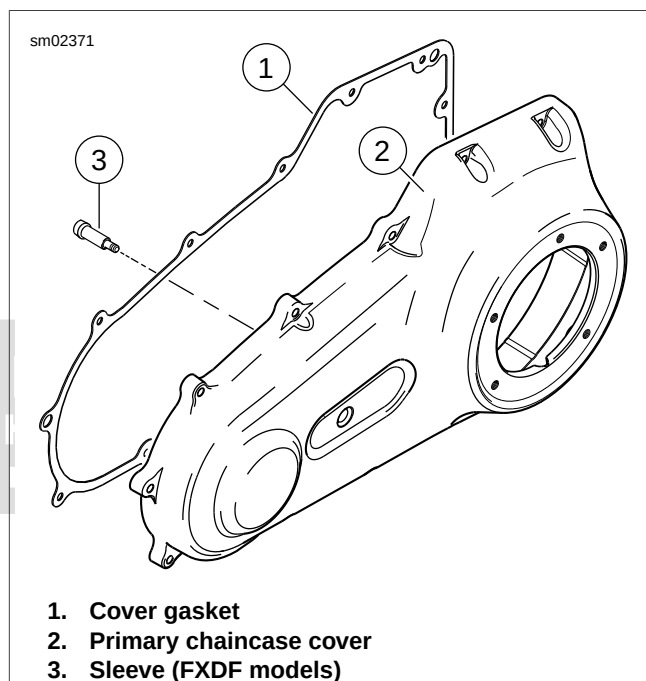

Figure 5-2. Primary Chaincase Cover Gasket
1. See Figure 5-2. On FXDF models, be sure sleeve (3) is installed in primary chaincase cover (2). Apply two drops of LOCTITE THREADLOCKER 262 (red) to sleeve threads and tighten sleeve to 15-19 ft-lbs (20.3-25.6 Nm).
3. See Figure 5-2. Install **new** cover gasket (1).